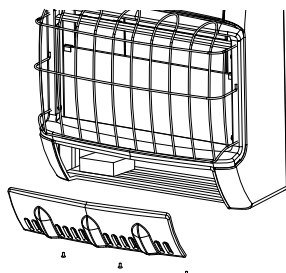

Figure 6
2. Pull bottom of front panel forward, then down (see figure 6)